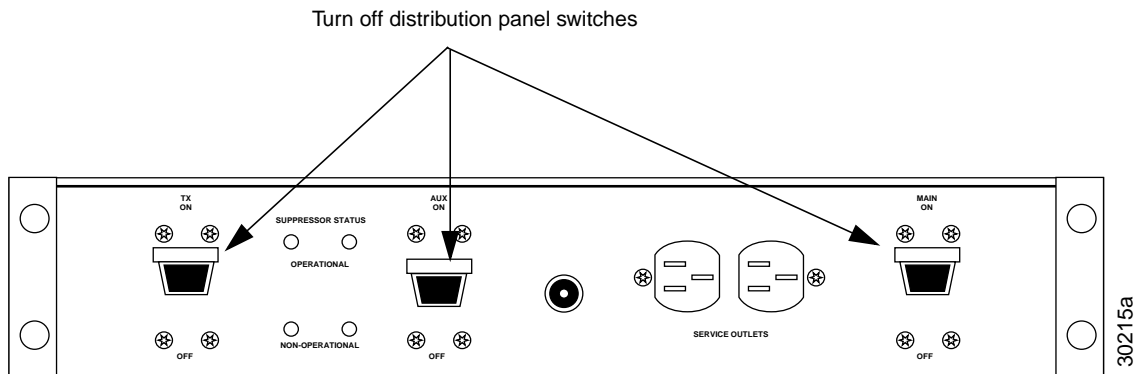

Figure 6-16: Front View: Location of AC Distribution Panel Power Switches
1. From the front of the cabinet, set the AC distribution power switches to the OFF position (see Figure 6-16).
10. At the front of the cabinet, set the AC distribution power switches to the ON position (see Figure 6-16).
- (1) AC Dist subchnl 20 amp, Motorola part number 0180576P02
8. From the front of the cabinet, set the AC distribution power switches to the ON position (see Figure 6-16).